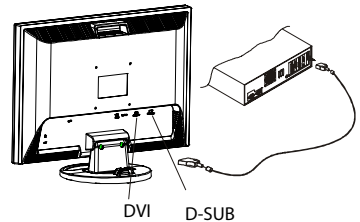

Figure1-5
2. Connect one end of the signal cable to the LCD Monitor's VGA port or DVI port. (See Fig 1-5)